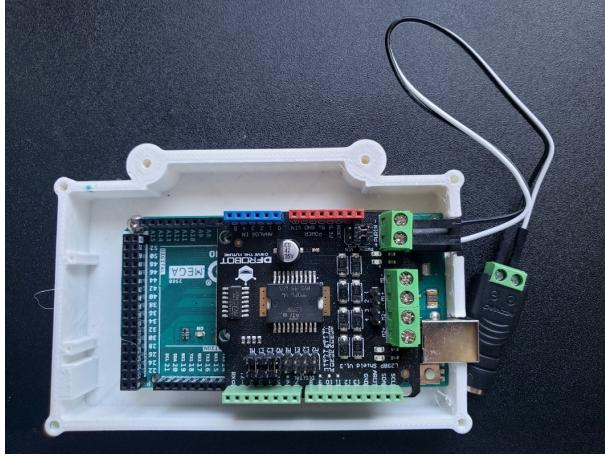

Figure 3: Motor shield and Arduino mounted on the base with the barrel jack attached.
3. Take the **#4-40 1/4"** screws and a screw the Arduino board onto the 3D printed base. See Figure 3.
that the `IOREF` pin is aligned with the `IOREF` pin on the Arduino. This will ensure that the motor shield is connected properly to the Arduino. See Figure 3.
5. Next, take the female barrel jack and screw on a red wire to the positive and a black wire to the negative end. Each connector port has screw terminals, so clamp them down on the wires by using a small screw driver. Connect the other end to the **screw terminals** on the motor shield, the positive wire goes to `PWRIN +` on DRI0009 (`Vin` on A000079) and the negative wire goes to `PWRIN -` on DRI0009 (`GND` on A000079). See Figure 3.